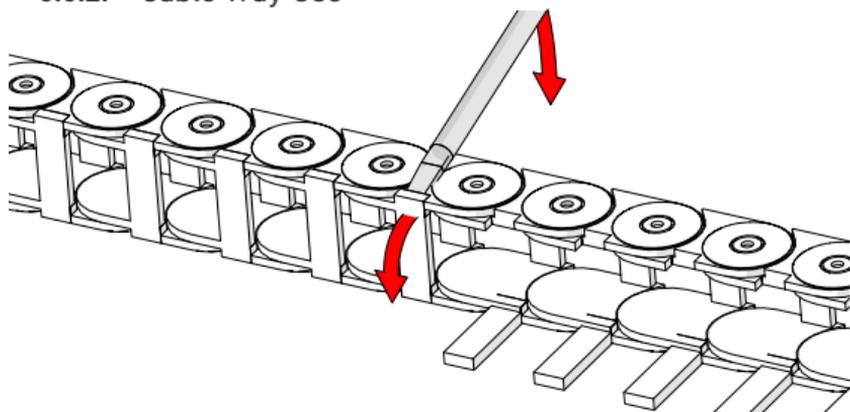

Fig. 61 - Unclip flaps from cable tray
1. Using the supplied 3 mm flat driver (Fig. 26), unclip the flaps of the cable tray (Fig. 61).